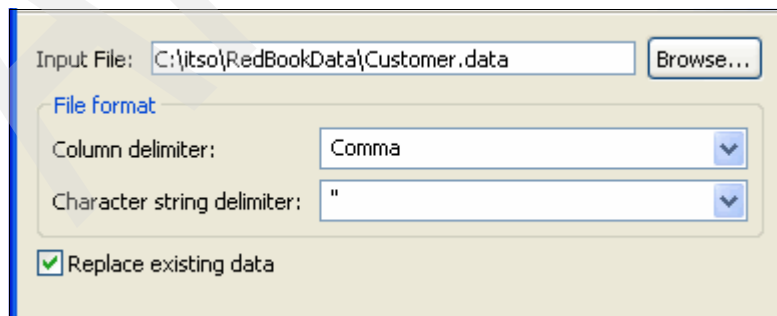

Figure A-8 Select the file from which to load the data
3. Select the input data file and review the file format parameters to make sure they correspond to the format used in the data file you plan to load. See Figure A-8.